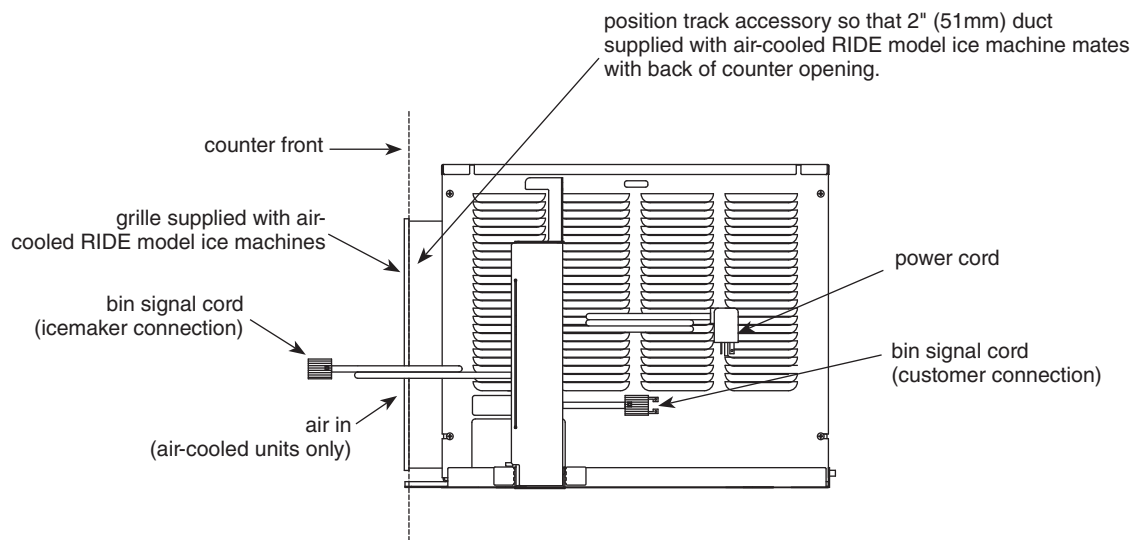

Fig. 3
2. Position track assembly on counter channels (Fig. 3).
1. Remove two outer rear screws from ice machine and install supplied spacer and screw (Fig. 3).